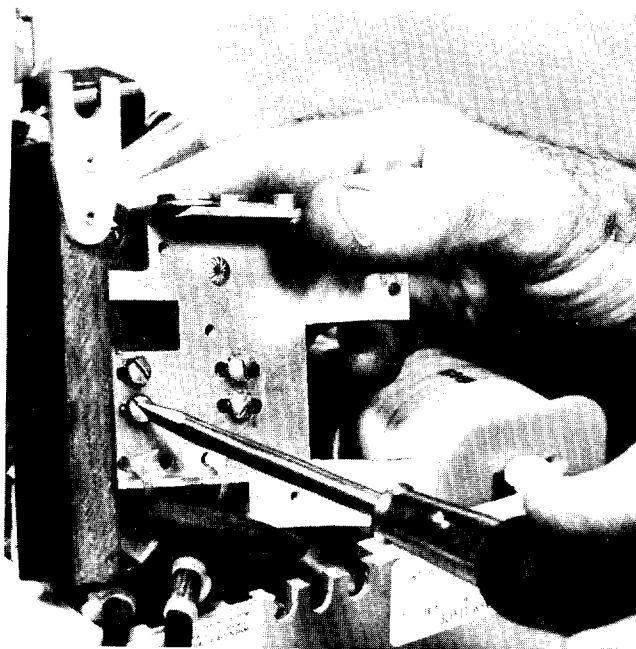

Fig. 3
2. If an existing shunt trip is being replaced its coil must be removed from the mounting plate. Do this by using a heat gun to soften the epoxy around its mounting screws (Fig. 3). Remove the defective shunt trip with its cut-off switch assembly and discard. Clean mounting plate of old epoxy.